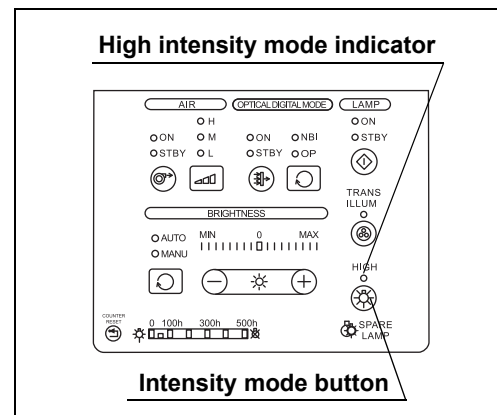

Figure 5.8
- 2 To activate the normal mode, press the high intensity mode button again. (See Figure 5.8)